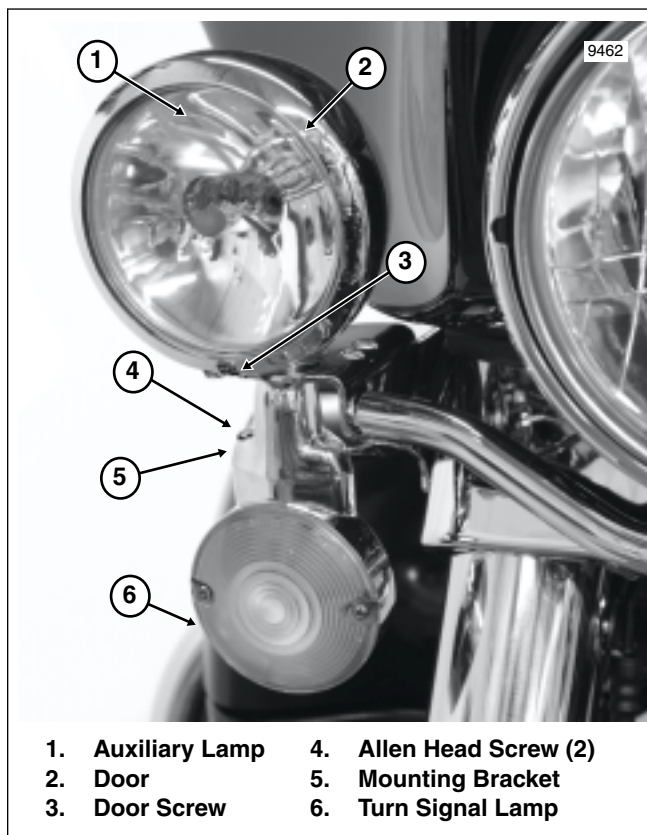

Figure 8-32. Auxiliary and Front Turn Signal Lamp
1. Loosen auxiliary lamp door screw as required to pull lamp door from lip of lamp housing. See Figure 8-32.
5. Remove two allen head screws to release turn signal lamp from mounting bracket. See Figure 8-32.
11. Start two allen head screws to secure turn signal lamp to mounting bracket. See Figure 8-32. Verify that conduit fits in slot at back of bracket and is not pinched. Alternately tighten screws to 36-60 **in-lbs** (4.1-6.8 Nm).
- a. Remove two screws to release turn signal lamp from mounting bracket. See Figure 8-32.